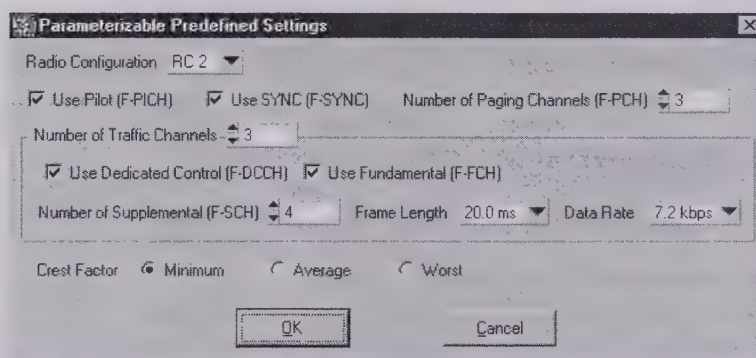

Fig. 12-20 Parameterizable Predefined Settings panel
**Example:** ➤ Set the parameters in the Parameterized Predefined Settings panel as shown in Fig. 12-20 below.